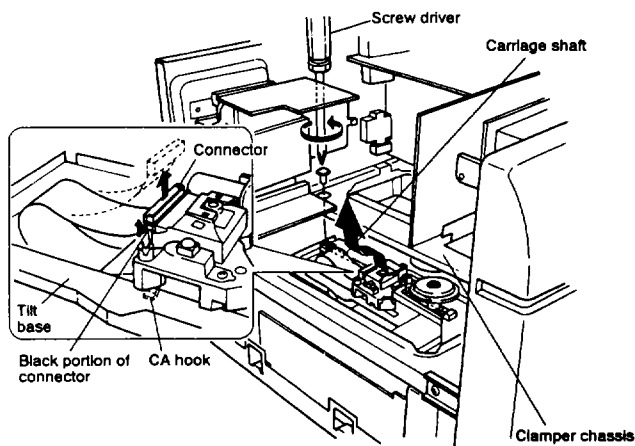

Fig. 5 Remove the carriage assy.
3. Reconnect the connector while pulling up the black portion of the connector. (Fig. 5)